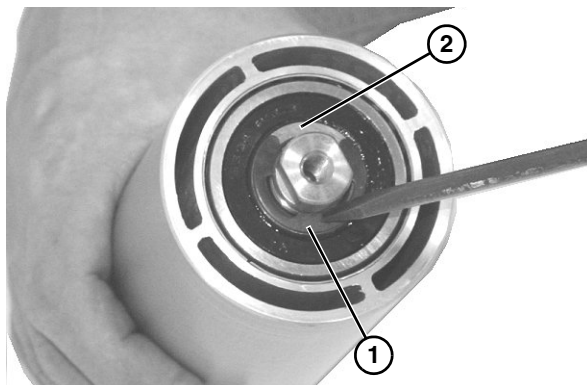

Figure 36
5. Remove the spindle shaft assembly: remove the clip ring (**Figure 36, item 1**) and washer (**Figure 36, item 2**) from one side of the spindle assembly.